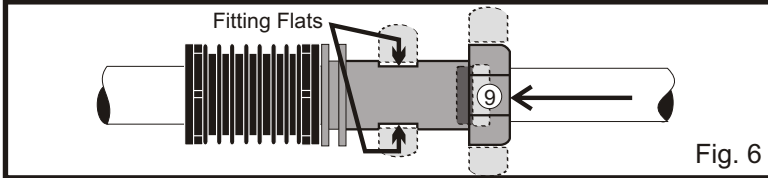

Fig. 6
9. Slide the gasket, retaining cup and nut into place. Tighten the brass nut by using a back up wrench on the fitting flats (as shown in Fig. 6).